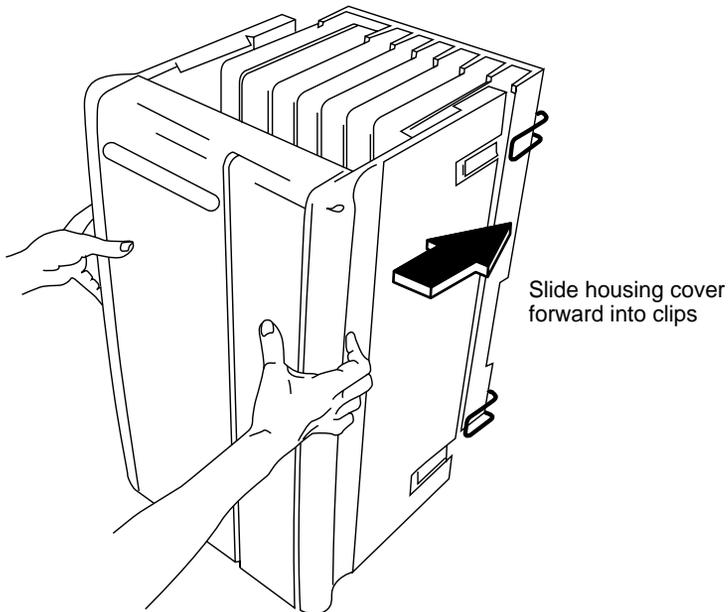

Figure 5-4. Installing the Control Unit Housing (Release 2.0 and Earlier)
- ▶ **2. Line up the wire clips attached to the carrier with the recesses on the outside of the side panels. See Figure 5-4.**